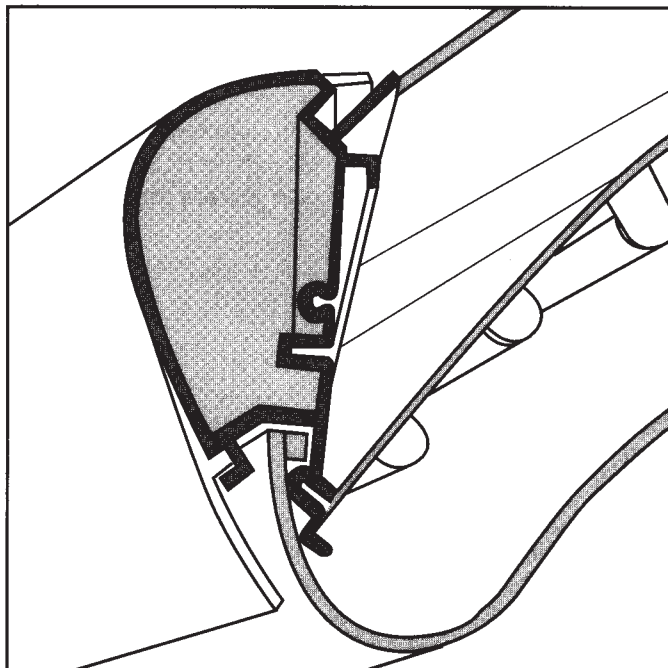

fig. 3
When assembling the acrylic sheet (31), make sure that the edges are properly inserted behind the aluminium profile (fig. 3).